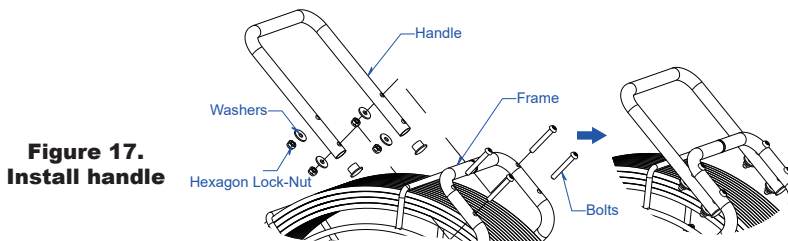

Figure 17.
3. Install Handle (See Figure 17)